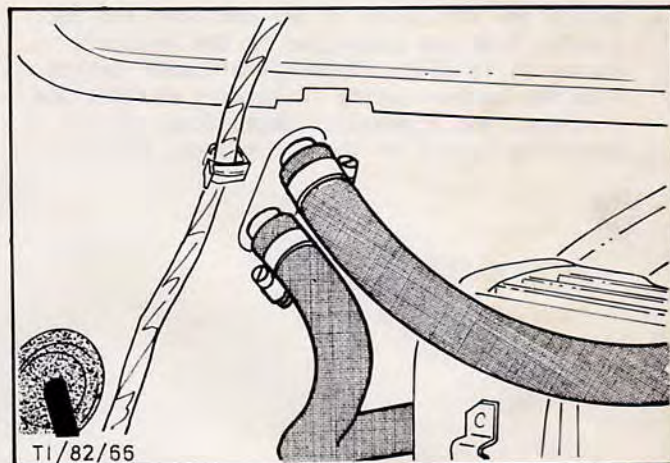

Fig.7. Detach hot water hose from heater radiator.
2. Position a tray under the vehicle to catch the coolant. Detach the hot water hoses from the heater radiator connector, Fig.7. Secure hoses in the engine compartment with their ends raised.